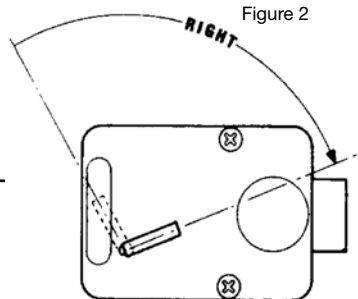

Figure 2
3. Insert the change key into the change key hole. (Figure 2.)
4. Turn the change key to the RIGHT (CW) one-quarter turn until the key stops. (Figure 2.) Leave the change key in the lock while setting the new combination.